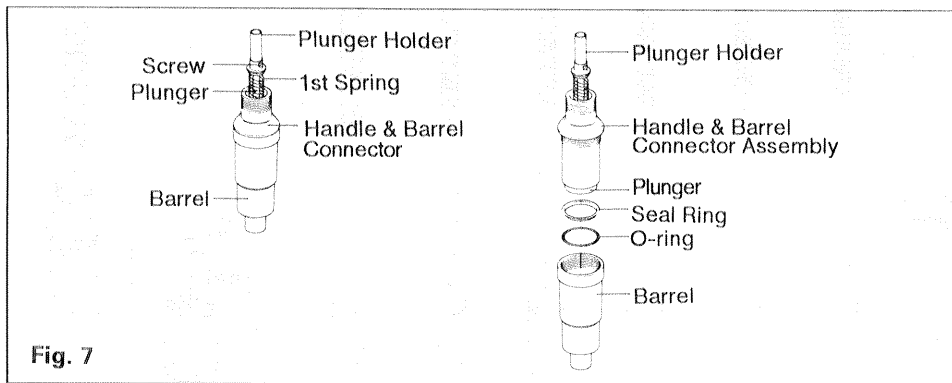

Fig. 7
3. Unscrew the barrel from the plunger and barrel assembly, the seal ring and O-ring may remain inside of barrel. So, remove both. (Fig. 7)